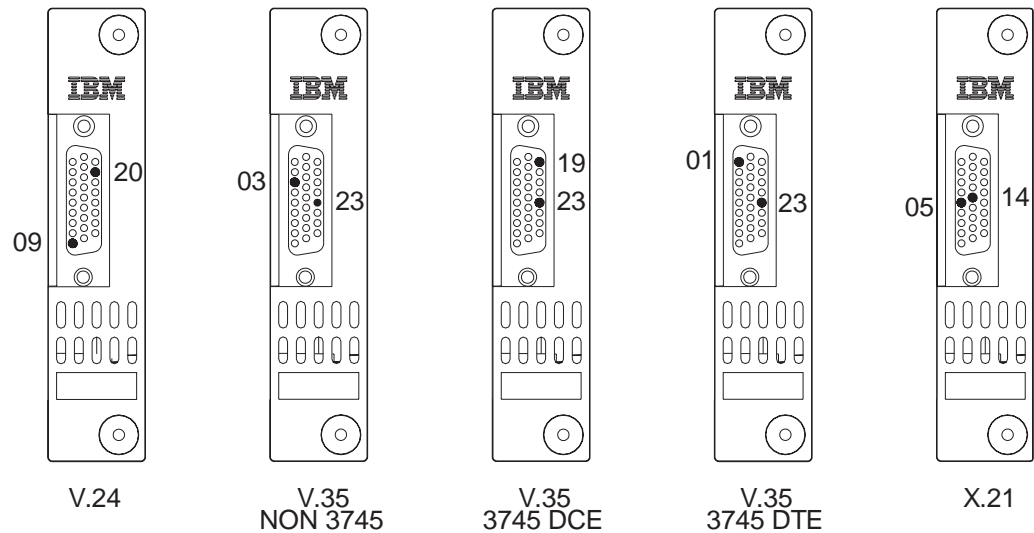

Figure 8-13. ARC Type
1. \_\_\_\_ According to the plugging sheet information, identify the ARC type (see Figure 8-13, note that ARC V.35 DTE is no more provided) and plug the ARC in the LCBB/LCBE locations (see Figure 8-9 on page 8-11).